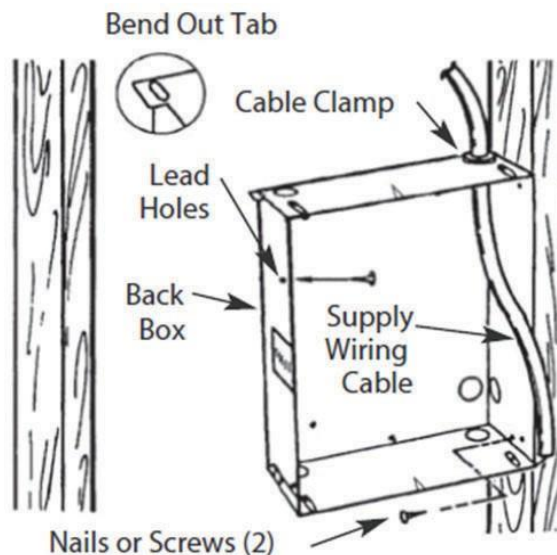

Figure 1 -Locating Recessed Back Box in New Construction
1. Determine which side of the back box is to be mounted against a stud and bend the tabs at the rear corners out 90 degrees so that the back box will be square with the stud after installation (see Figure 1).
3. Position back box against side of studs and secure using nails or screws as shown in Figure 1.
NOTE: Lead holes for a #8 sheet metal screw have been provided in the sides of the back box. After the finished wall has been put up, drive a #8 or M4 sheet metal screw (1" or 13 mm length recommended) through the side of the box that isn't mounting into the stud, this will help stop the box from pulling out during heater assembly (see Figure 1)